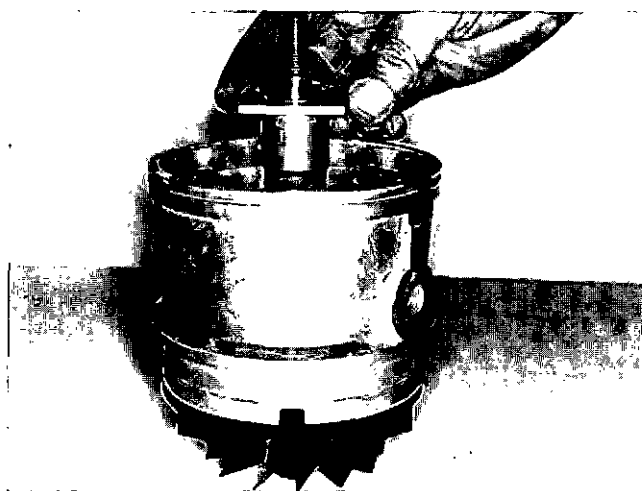

Fig. 3-13, (VTST38). Installing the turbocharger bearing
6. Lubricate the rotor shaft and the turbocharger bearing with STP oil or the equivalent. Insert the turbocharger bearing over the shaft and into the bearing housing bore, Fig. 3-13.